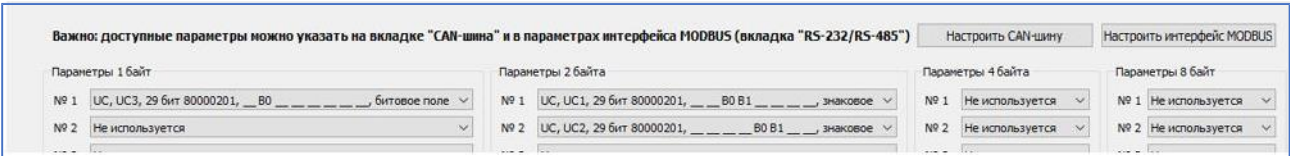

fig. 7.4. Choosing the user-parameters for transmission
3) In the Protocol settings choose the parameters to be transmitted to server (fig. 7.4).